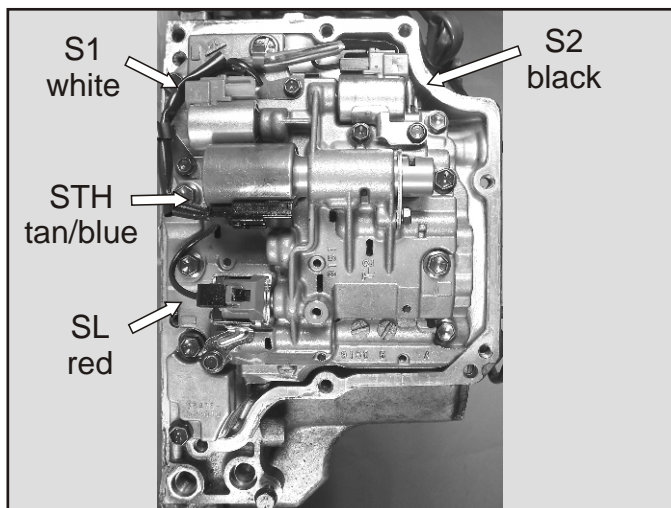

Figure 299
- 223. Install the four solenoid connectors shown in Figure 299. *Note: The internal wire colors are listed below each solenoid.*